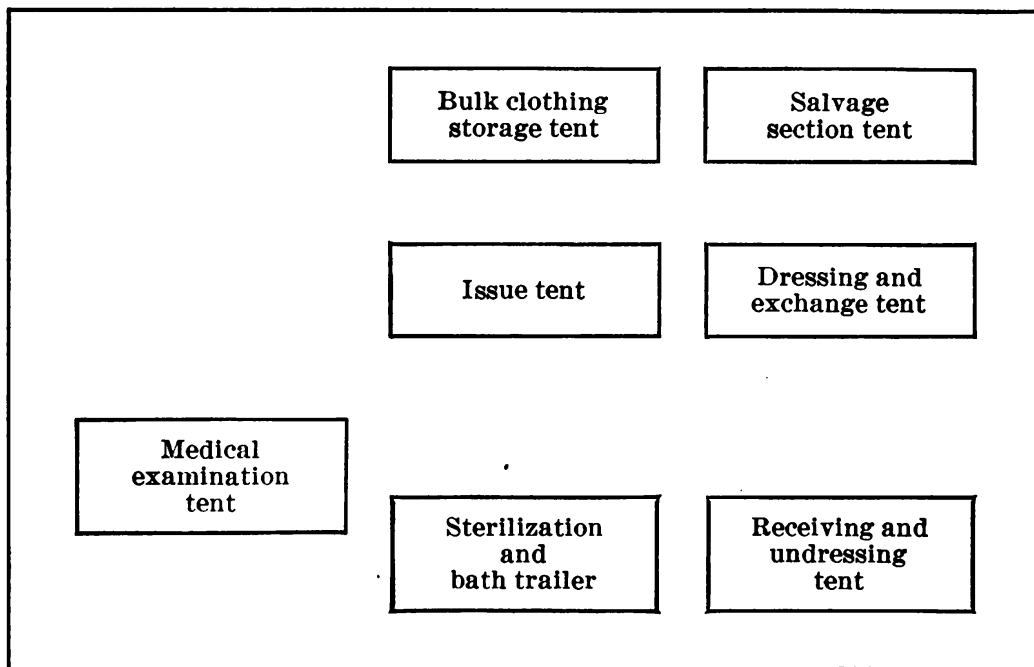

FIGURE 2.—Set-up of sterilization and bath section.
a. Each sterilization and bath section and accompanying tentage shall be set up as shown on figure 2. The semitrailers should be parked on fairly level ground near a source of water. The dolly wheels should be lowered to take the weight of the front end, rear wheels chocked front and back, and the prime mover disconnected. Trailer sides and rear should be opened and jacks in each corner should be placed in position and the trailer leveled, care being exercised not to take all the weight from the rear axle and dolly wheels.